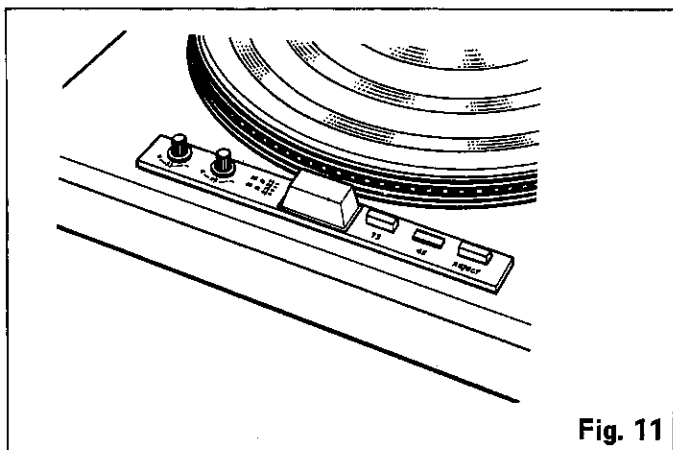

Fig. 11
5. **ADJUSTMENT OF TURNTABLE SPEEDS (Fig. 11)**